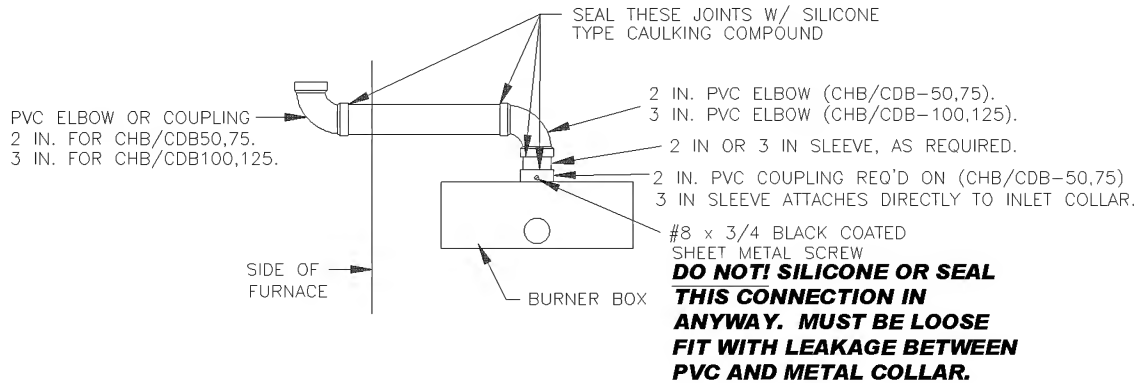

Figure 10
Note: The PVC connection to the metal burner box collar does not require RTV silicone sealant or PVC cement. Attach the PVC elbow to the sleeve and then to the coupling where required, using RTV silicone sealant. (see Figure 10).
c. Install the precut 2" or 3" PVC pipe into the elbow at the burner box and to the elbow or coupler just outside the furnace using RTV silicone sealant. To make these seals, run a bead of high temperature RTV silicone sealant around the PVC pipe 3/8" from either end, insert into the appropriate couplings and elbows and rotate 1/4" turn. This will allow for easy disconnection in case the burner assembly must be removed at a later date. (see Figure 10).